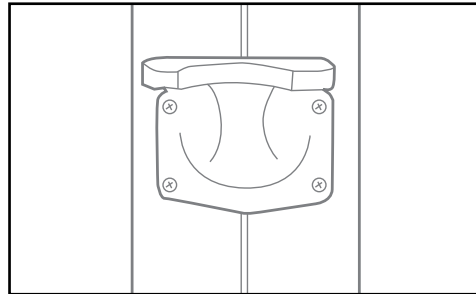

Fig. 16
- Clamp the Hand Rail corner assembly to the inside corner bracket. Using a 1/8" bit, pre-drill and attach the bracket using the provided screws - Fig. 16.